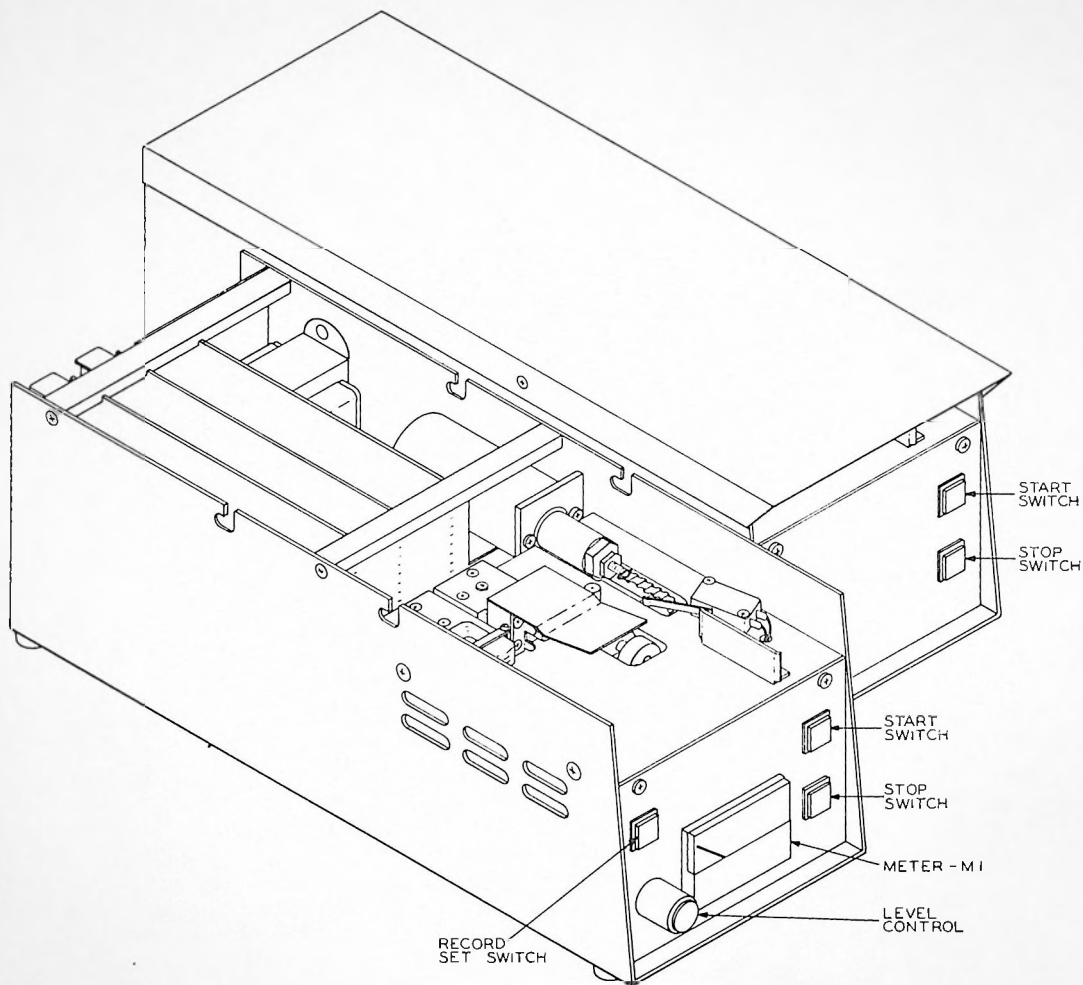

FIGURE 2-4
E. CONTROL SWITCHES AND INDICATORS (See Figure 2-4)